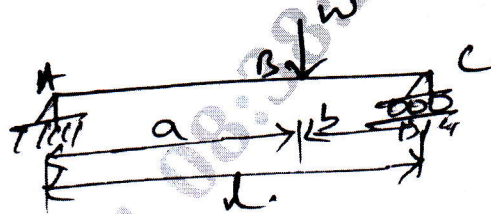

Fig.Q.7(c)
c. Determine the bending moment at point 'B' in simply supported beam ABC. (Refer Fig.Q.7(c)). (10 Marks)